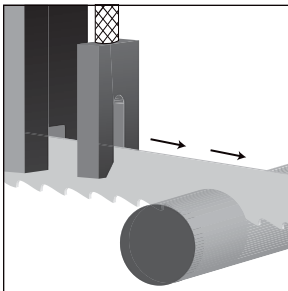

Figure 2.
Nozzle placement is extremely important to effective Minimum Quantity Lubrication; they must be positioned so lubricant is applied to the cutting edge of the tool BEFORE the cut is made (see Fig. 2).
1. Position the nozzle over the band saw blade and attach to the leading guide arm before the cutting point (see Fig. 2).